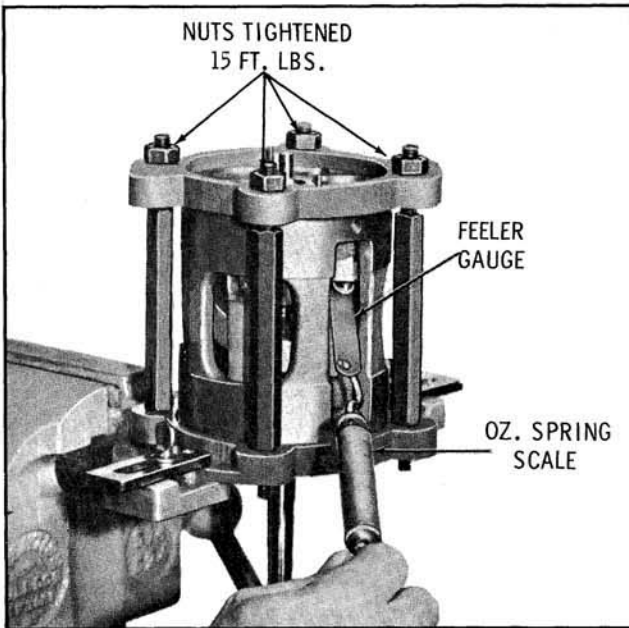

Fig. 14-130 Checking Drive Ball to Swash Plate Clearance
- c. Pull on spring scale to slide feeler gauge stock out from between ball and swash plate, and note reading on spring scale as feeler gauge is removed, Fig. 14-130. Reading should be between 4 and 8 ounces.